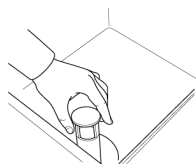

Fig.39
- 2- Open the door and remove the water flow device. (Fig.39)